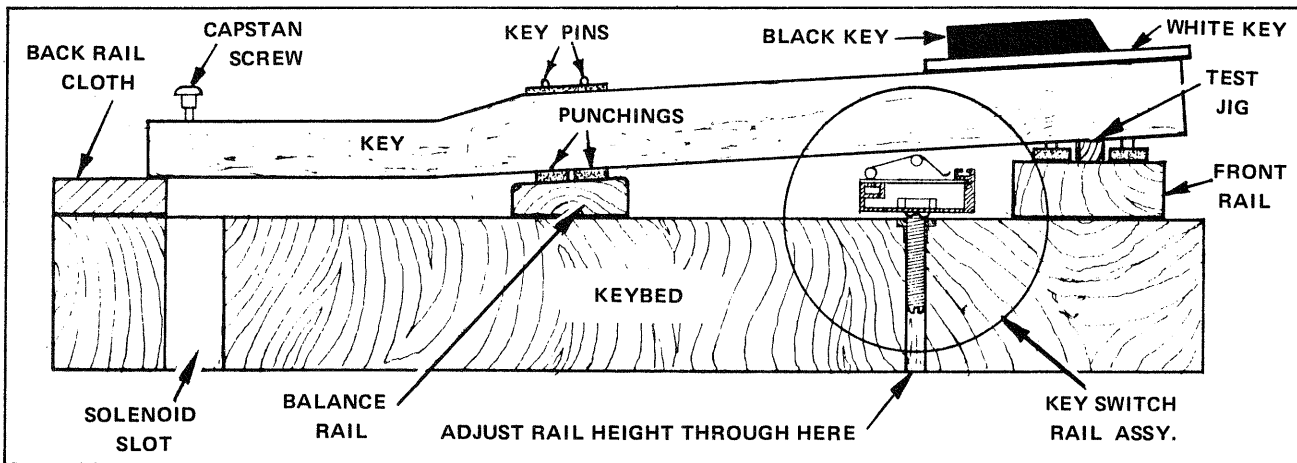

FIGURE 9-64 Cross-section through Keybed.
A. If the Switches do NOT make contact, the Key Switch Rail is too LOW and must be raised. To raise the Rail, insert a common Screwdriver through the holes in the underside of the Keybed and turn each Leveling Screw CLOCKWISE a few turns at a time, then repeat the procedure detailed under this Step on the previous page. See the CAUTION and FIGURE 9-64 below.
B. If the Switches make contact BEFORE their Keys touch the Test Jig, the Key Switch Rail is too HIGH and must be lowered. To lower the Rail, insert a common screwdriver through the holes in the underside of the Keybed and turn each Leveling Screw COUNTERCLOCKWISE a few turns, then repeat the procedure detailed under this Step on page 155. See the CAUTION above and FIGURE 9-64 below.